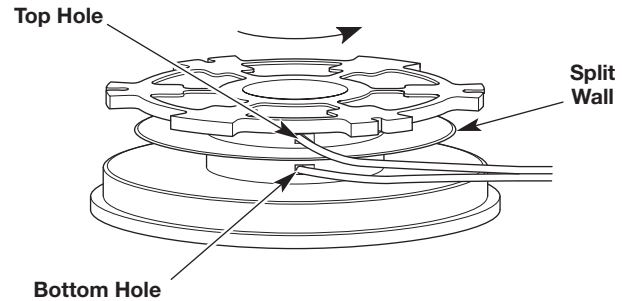

Fig. 14
2. Using one split end, insert one line into the top hole and the other line into the bottom hole in the inner reel (Fig. 14).